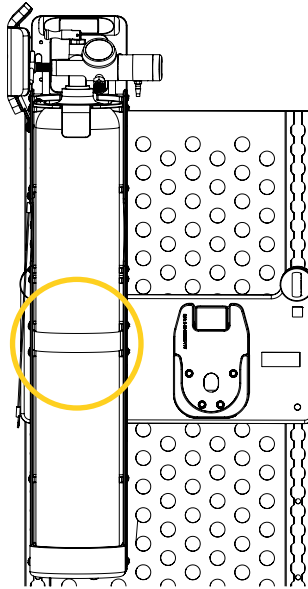

Figure 9: Cinch strap location
2. Pull the tip of the cinch strap (Figure 9) and remove it from the ring to detach the strap.